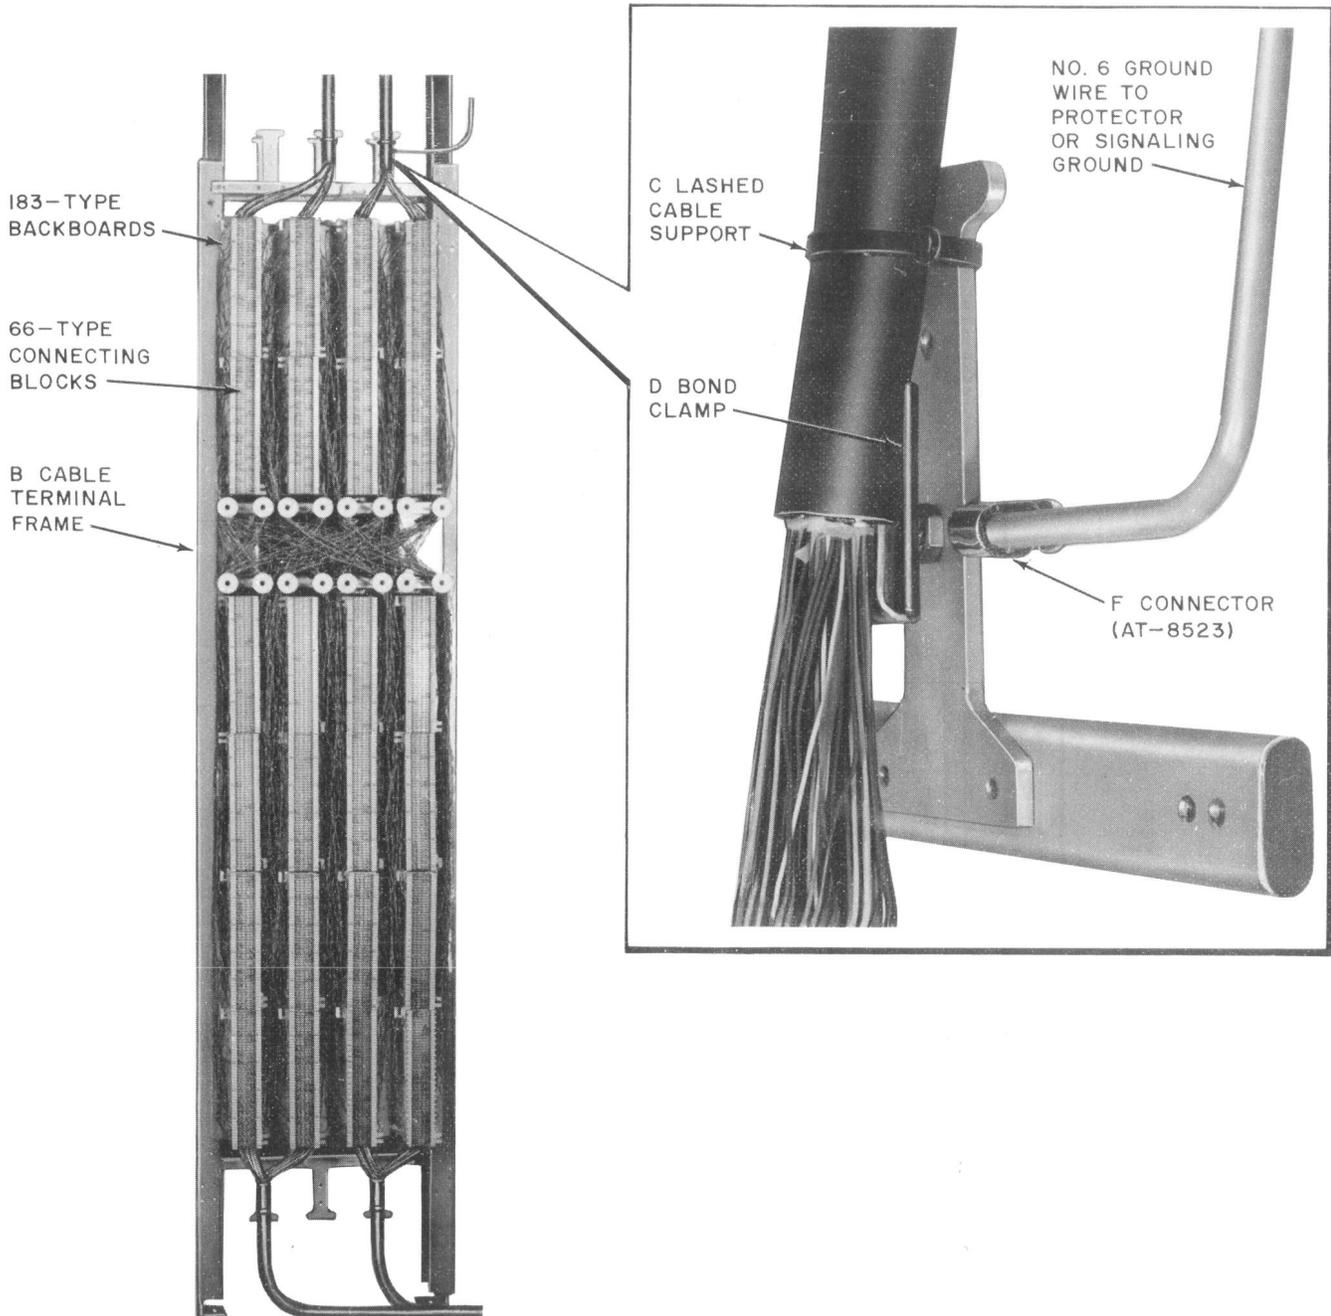

Fig. 18—183-Type Backboards Mounted on B Cable Terminal Frame
4.27 Figure 18 illustrates the 134A1A-type protector and the 183-type backboards mounted on